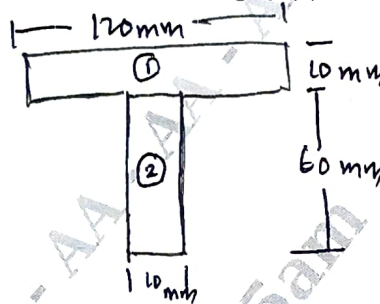

Fig.Q1(b)
b. Determine the location of the centroid shown in Fig.Q1(b).